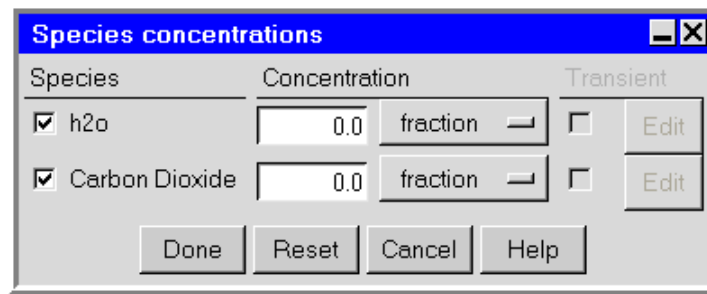

Figure 21.2.4: The Species concentrations Panel for a Hollow Block, Fan, or Vent
- i. Select the check box for each **Species** for which you want to set a concentration in the **Species concentrations** panel (Figure 21.2.4).